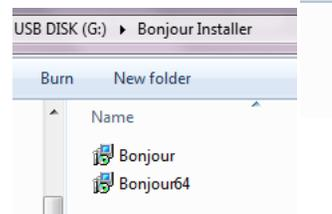

Figure 3
6. Click and open the Bonjour Installer folder (see Figure 3).